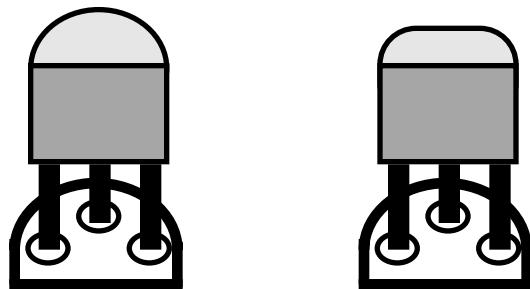

Figure 5-4
- Locate transistor Q1 (type 2N4124), which has a small, 3-lead TO-92 package. Q1 and other TO-92 devices may have either of the two shapes shown in Figure 5-4. The right-hand illustration shows a "modified TO-92" package, which may be labeled on either the front or back side. The large flat side of each device will be aligned with the flat side of its component outline.